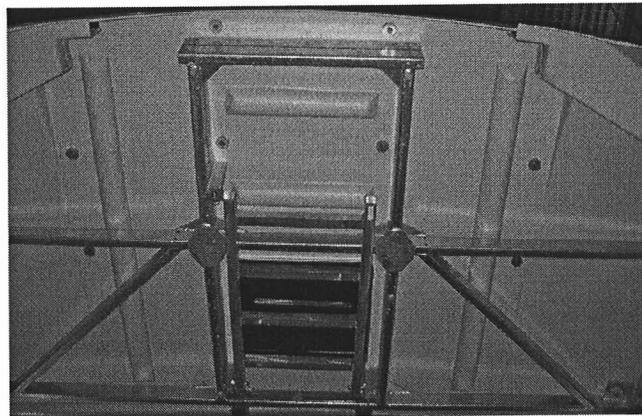

Fig. 83 Hatch and ladder in the nacelle
- Fold down the ladder in the nacelle, see Fig.83